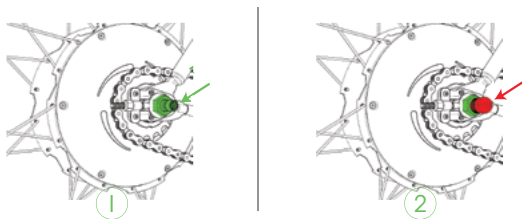

Figure 1: 6-pin charging connector (1) and protection cover (2)
- **DO NOT** use the bike without the protection covers for the charging connector (see Figure 1). Warranty is void if the bike is being used without protecting the connector.
- **IF your BIKE all in one has a 6-pin connector (see Figure 1), please be careful to insert the 6-pin charger plug in the 6-pin connector in the proper way.** Otherwise short circuits can occur. Warranty is void if charger is not inserted correctly. Do not short circuit the pinout of the charging connector.